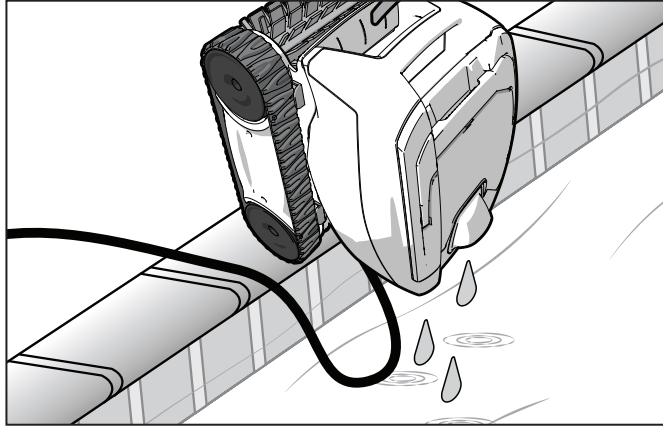

Figure 17. Hold Vertically to Drain Water
2. Hold the cleaner vertically to drain (Figure 17).